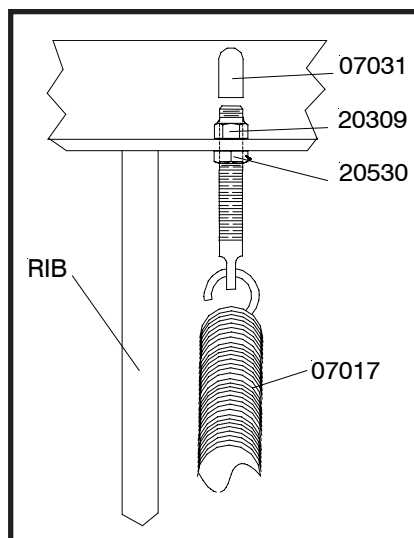

Figure 1
- B. Attach Pivot Bar (9) to Moldboard (1) with Pivot Pins (14 & 15) (grease fitting facing outward) and insert Cotter Pins (16). Grease outer Pivot Pin's (15) using grease fitting.
- C. Attach Eye Bolts (13) to Moldboard (1) and Trip Springs (11) to Pivot Bar (9), making certain locknuts are positioned as shown in Figure 1.
- D. Make certain each Eye Bolt (13) is in a vertical position as shown in Figure 1 so that the Eye Bolt (13) and Trip Spring (11) hinge properly when moldboard trips.
Note: Proper tension is attained when Trip Spring (11) coils just begin to separate and then tightening top locknut four additional turns. Tighten bottom Locknut (20530) to secure Eyebolt in position. Install Eyebolt caps (07031) over exposed threads. See Figure 1.
- E. Attach A-Frame (10) to Pivot Bar (9) using King Pivot Bolt (17), Hex Nut Slotted (18) and Cotter Pin (16). **IMPORTANT:** Install King Pivot Bolt (17) from top so that grease fitting is easily accessible. Grease King Pivot Bolt (17) using grease fitting.